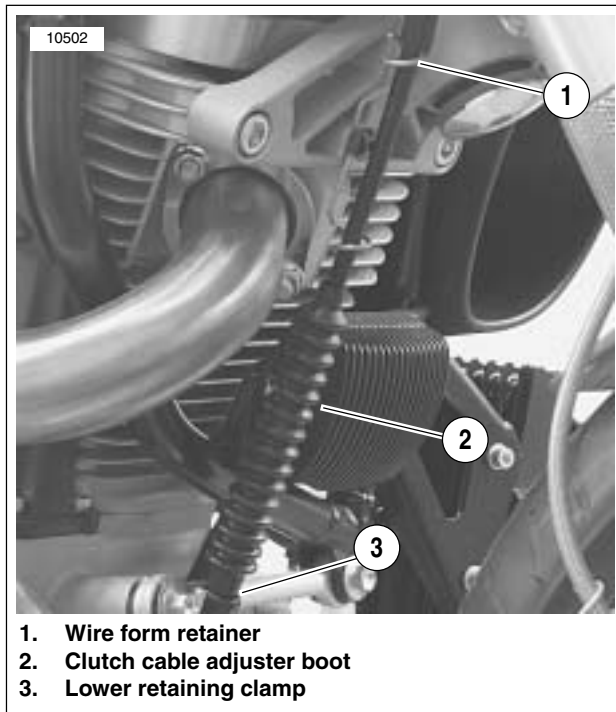

Figure 3-20. Clutch Cable Wire Form Retainer, Retaining Clamp and Adjuster Boot
22. See Figure 3-20. Disconnect clutch cable.
- a. Remove wire form retainer (1) from front isolator.
- b. Slide clutch cable adjuster boot (2) up to access clutch adjuster.
26. See Figure 3-20. Remove front tie-bar from engine along with lower retaining clamp.